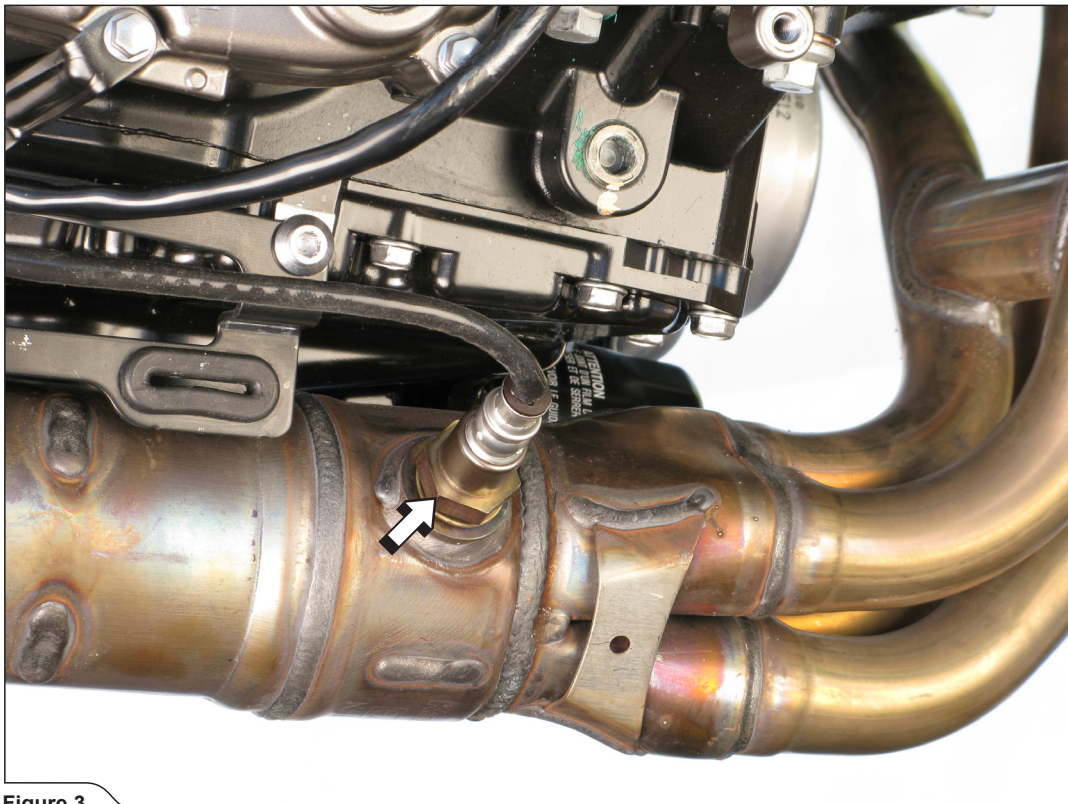

Figure 3
4. Unscrew the lambda sensor (**Figure 3**).